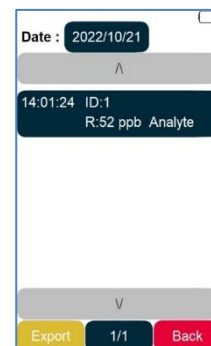

Fig. 9
- Database: All the performed test can be viewed, sorted by date (Fig. 9). The day of testing can be selected by clicking on the blue box next to “Date”.